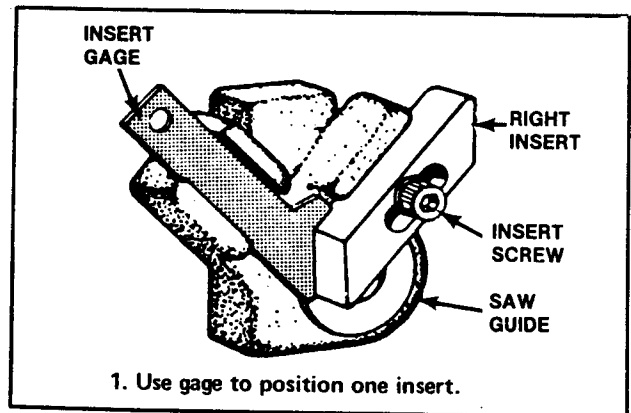

FIG. 9. POSITIONING RIGHT INSERT. UPPER GUIDE BLOCK SHOWN.
- (1) Select guide blocks and inserts marked for band width to be used. Place right insert in milled slot. Tighten screw lightly so insert will slide in slot, and hold its correct position when released. See Fig. 9.